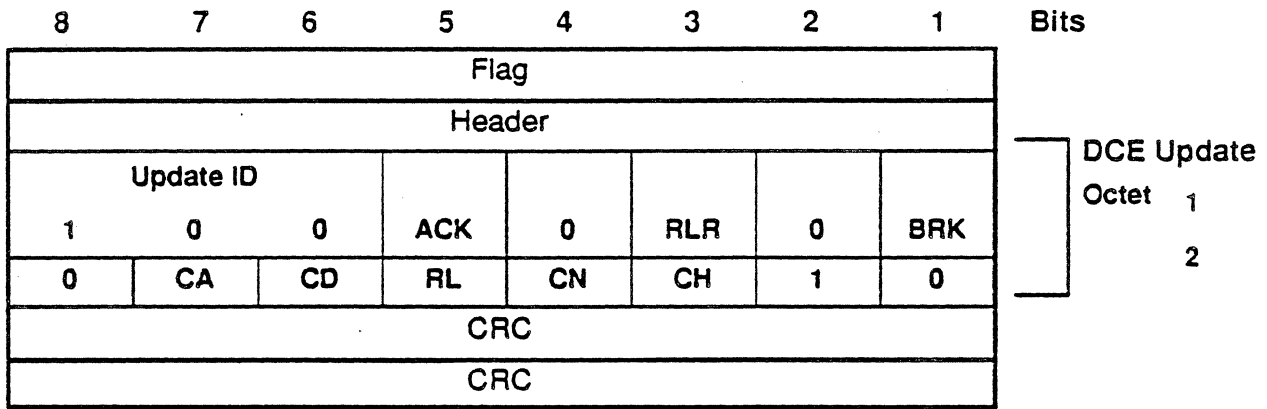

Figure 15.4: DCE Update Message Format
- *DCE Updates* are sent by host data endpoints, and by PBX data endpoints with devices connected to them which require a DCE interface. The format of a DCE Update is shown in Figure 15.4.